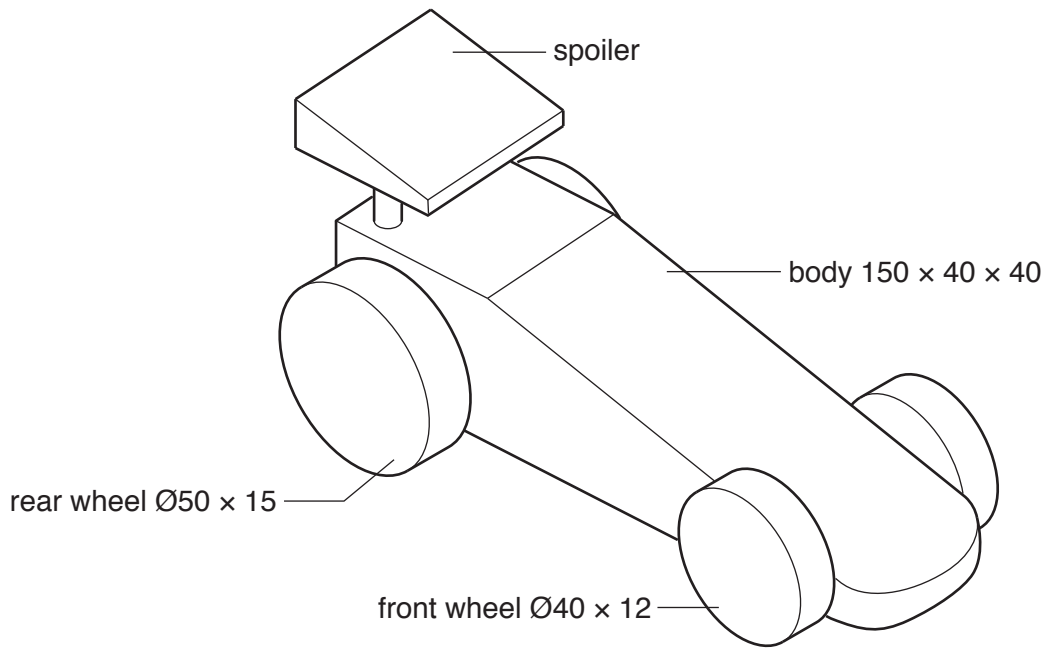

Fig. 13
- 13 Fig. 13 shows a toy racing car made from softwood. Ten identical cars will be made in a school workshop.